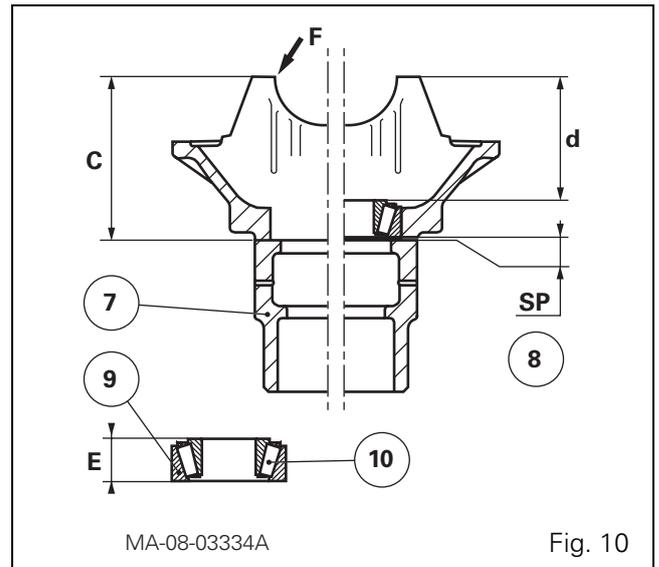

Fig. 10
36. Adjust the position of the pinion (Fig. 10).